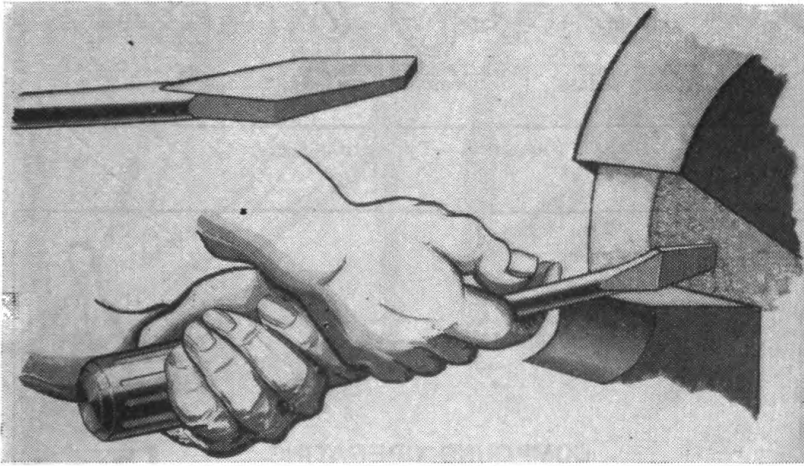

FIGURE 6.—Grinding a screw driver.
b. Correct use and safety precautions.—(1) Keep the point of the screw driver properly ground, as shown in figure 6. The point should be free of grease or oil. A screw driver of the proper size should be used with a point that fits the slot in the screw; otherwise, the point of the screw driver may break or the screw driver may slip and mutilate the screw slot or the work.